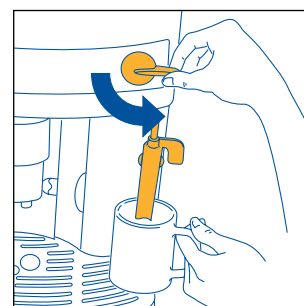
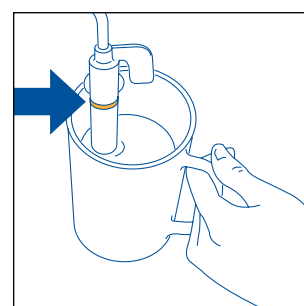

Fig.23
Fig.24
- Dip the cappuccino maker into the recipient containing the milk (fig. 23), taking care not to immerse the raised line on the cappuccino maker (indicated by the arrow in fig. 24). Turn the steam knob a half turn anticlockwise as far as it will go (Beware of burns). Steam is discharged from the cappuccino maker, giving the milk a creamy frothy appearance. To obtain a creamier froth, dip the cappuccino maker into the milk and rotate the container with slow movements from the bottom upwards. (You should not discharge steam for more than two minutes at a time).